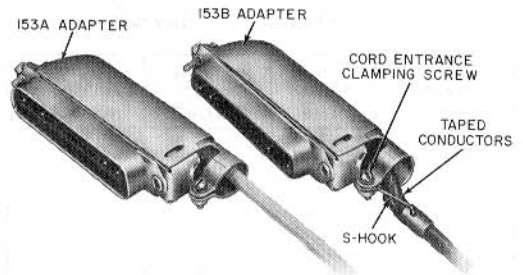

Fig. 8—153A and 153B Adapters
153A and 153B Adapters (Fig. 8)
- The hood has a cord-entrance clamping screw which is used to restrain S-hook terminated cords (Fig. 8), and cords of this design should have the conductors taped about 1-1/2 inches to improve appearance and protection (Fig. 8).